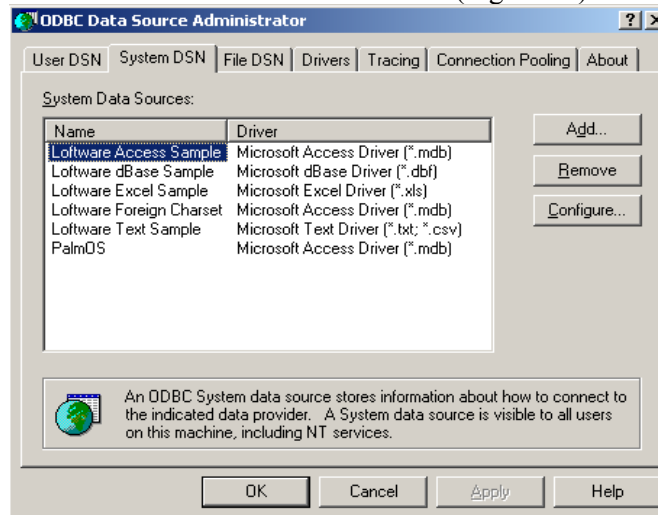

Figure 74
Step 5 – Select the SYSTEM DSN tab and click ADD (Figure 74).